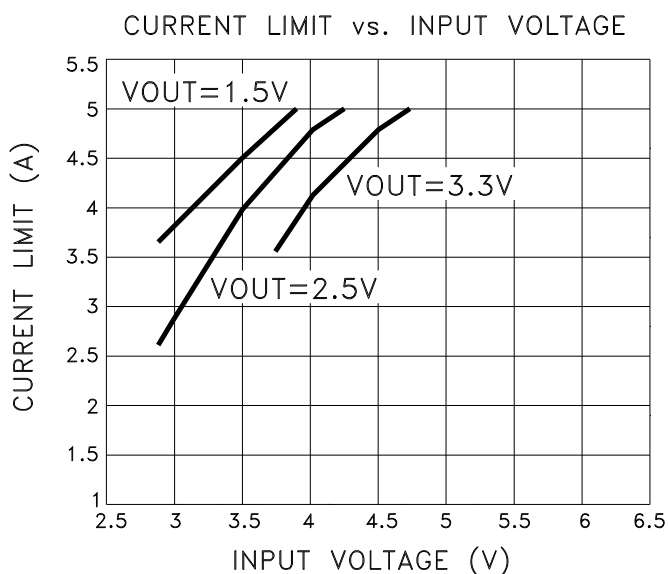

FIGURE 1
- ⑦ Output current limit is dependent upon the values of VIN and V_{OUT}. See Figure 1 and typical performance curves.
- ⑧ Continuous operation at or above absolute maximum ratings may adversely effect the device performance and/or life cycle.
- ⑨ VIN shall be as specified or VIN Min, whichever is greater.
- ⑩ Not applicable when V_{OUT} < VIN Min - dropout voltage maximum.
- ⑪ Pre and post irradiation limits, up to 300Krad TID, are identical unless otherwise specified.
- ⑫ Reference DLA SMD 5962F09216 for electrical specification for devices purchased as such.
- ⑬ Internal solder reflow temperature is 180°C, do not exceed.
The MSK5821RH current limit function is directly affected by the input and output voltages. Figure 1 illustrates the relationship between VIN and ICL for various output voltages. It is very important for the user to consult the SOA curve when using input voltages which result in current limit conditions beyond 4.5 Amps. When using input voltages which result in current limit above 4.5 Amps, the user must maintain output current within the SOA curve to avoid damage to the device. Note that 5 Amp maximum is due to current carrying capability of the internal wirebonds.